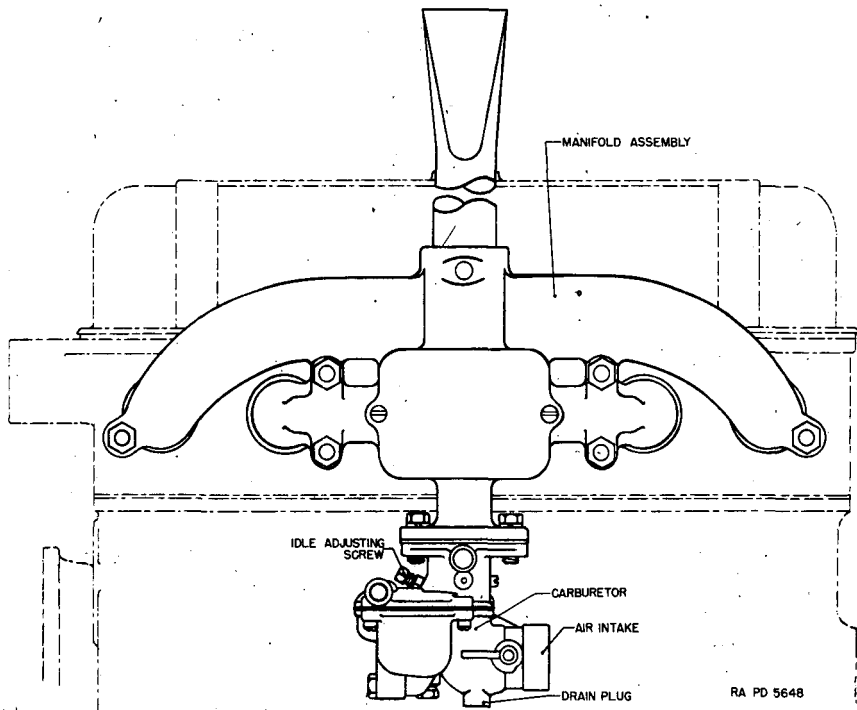
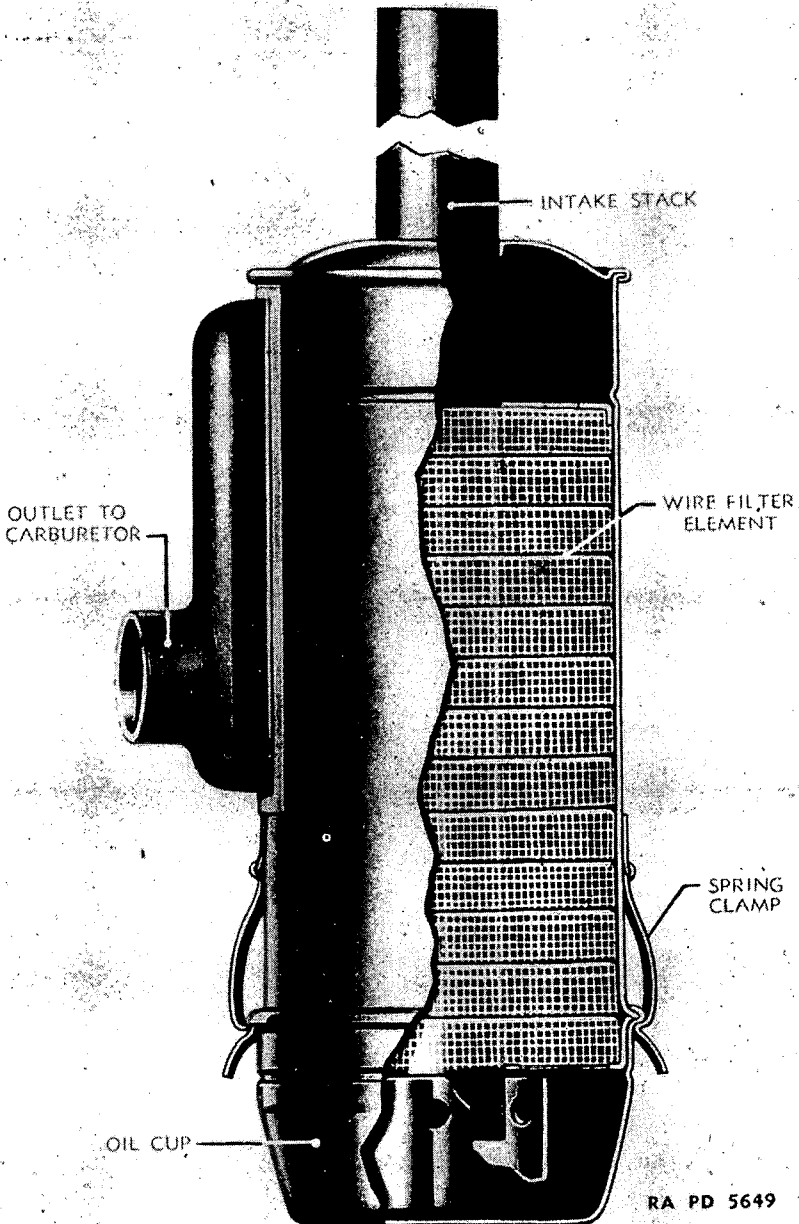

FIGURE 10.—Carburetor and manifold.
FIGURE 11.—Air cleaner—sectional view.
(4) To replace, proceed in the reverse order of removal, using new oil pan gasket if available.
34. Manifolds.—*a.* The intake and exhaust manifold (fig. 10) is located on the left hand side of the engine and is a one piece casting. The manifold is fastened to the port connections by hex nuts and studs which pass through lugs on the manifold. The hex nuts at each end of the manifold are made of bronze to facilitate removal. The remaining four nuts are of steel. An exhaust pipe or stack extends vertically from the central opening in the manifold for discharge of exhaust gases into the open air. It is held in place by a locking bolt and nut, and lock washer.
c. *To remove spark plugs.*—(1) Disconnect the magneto cable from each plug.
(2) Using a spark plug wrench provided, unscrew the spark plugs and remove them together with their gaskets.
(3) When replacing with serviceable plugs, be sure to install new gaskets under the spark plugs and tighten them sufficiently to prevent gas leakage around the plugs.
(4) Do not use a wrench with a handle more than 10 inches long. It is possible to distort certain sections of the plug if too much force is used to tighten the spark plugs in the engine cylinders.
38. Carburetor.—*a. Description.*—The carburetor is of the up-draft type and is attached directly to the lower part of the intake manifold by means of mating flanges and two cap screws with associated lock washers (fig. 10).
(1) Pull the hand throttle control lever all the way back to the "Off" position.
(2) With the engine idling, adjust needle valve located on front top of the carburetor (fig. 10) for correct fuel mixture. Back off the needle until the engine begins to run unevenly, then turn the needle inwardly (clockwise) slowly until the engine runs smoothly. Turning the needle inwardly provides for a richer mixture to be delivered to the engine.
(3) The normal needle setting is approximately $1\frac{1}{2}$ turns out from the seat. After the mixture has been properly set, regulate the idling speed of the engine by adjusting the set screw on the throttle valve arm located on the inner side of the carburetor to obtain the lowest idling speed consistent with reliable operation of the engine. After making this adjustment, recheck the setting of idle needle valve adjustment.
39. Air cleaner.—*a. Description.*—An air cleaner of the oil bath type (fig. 11) is mounted on the left-hand side of the tractor and is hose connected to the carburetor air intake opening.